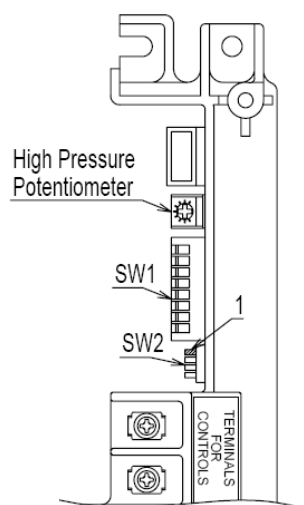

Fig. 6
15. Adjust the **High Pressure Potentiometer** on the Printed Circuit Board above SW1 (Fig. 6) to the pressure shown above. The potentiometer is very sensitive, turn no more than a few degrees at a time; then let the pressure settle down before turning it more. Seal screw shut.